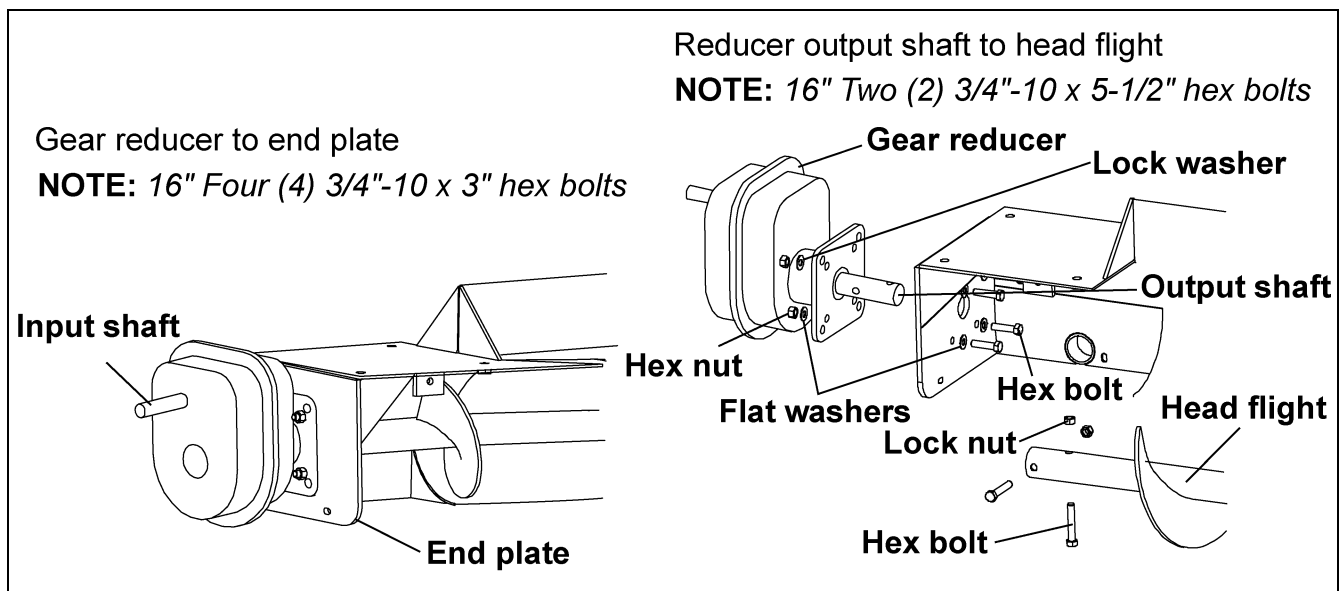

Figure 5H
A. Slide the output shaft of the reducer through the end plate of the head section and into the end of the head flight. Secure the reducer output shaft to the head flight with hex bolts and lock nuts. (See Figure 5H on Page 28.)
B. Bolt the reducer to the end plate of the head section using hex bolts, flat washers and lock washers, supplied with the reducer. (See Figure 5H on Page 28.)